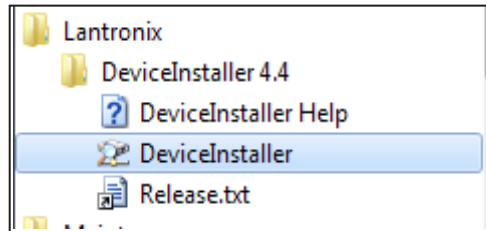

Figure 15 DeviceInstaller Start Menu
2. Once installed, launch DeviceInstaller from the START menu (Figure 15).